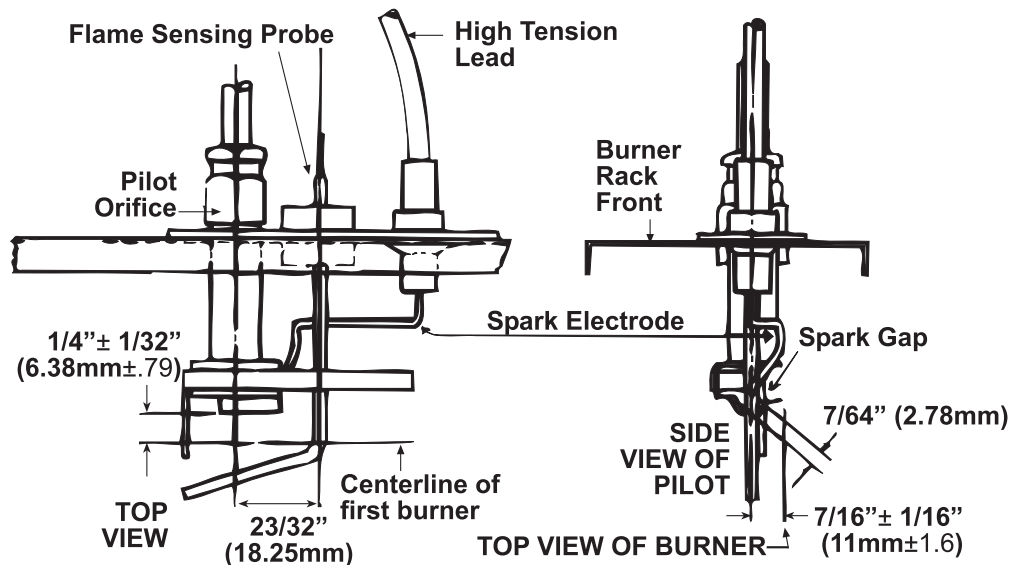

Figure 25. Pilot Assembly Spark Gap
4. Check the spark gap (see Figure 25), which should be maintained to 7/64 inch.
- c. Verify that pilot spark gap (see Figure 25) is approximately 7/64 inch.